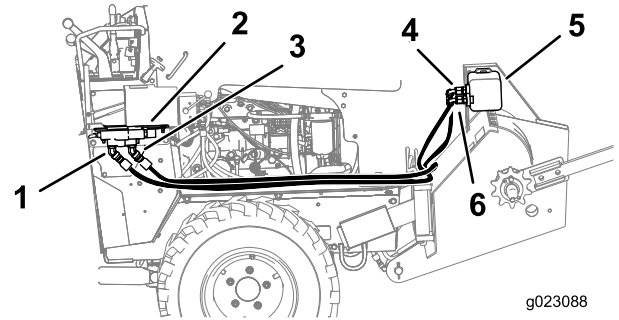

Figure 22
6. Connect 1 hose (82 inches) from port A on the valve to port A on the hydraulic motor assembly (Figure 22).
8. Connect the other 82 inch hose from port B on the valve to port B on the hydraulic motor assembly (Figure 22).